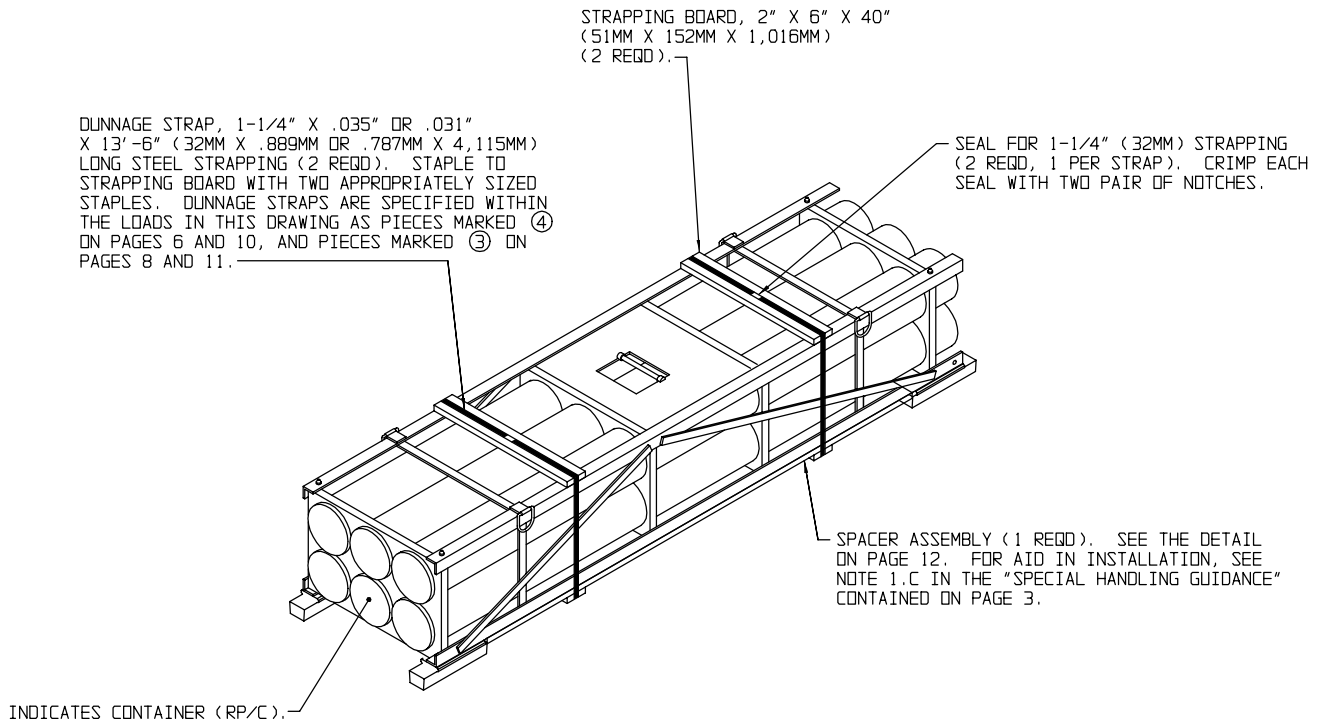

FIGURE 1
- A. EVERY CONTAINER TO BE SHIPPED IN THE TOP LAYER MUST FIRST BE PREPARED BY STRAPPING TWO STRAPPING BOARDS AND A SPACER ASSEMBLY TO IT AS DEPICTED IN FIGURE 1 ON PAGE 4.